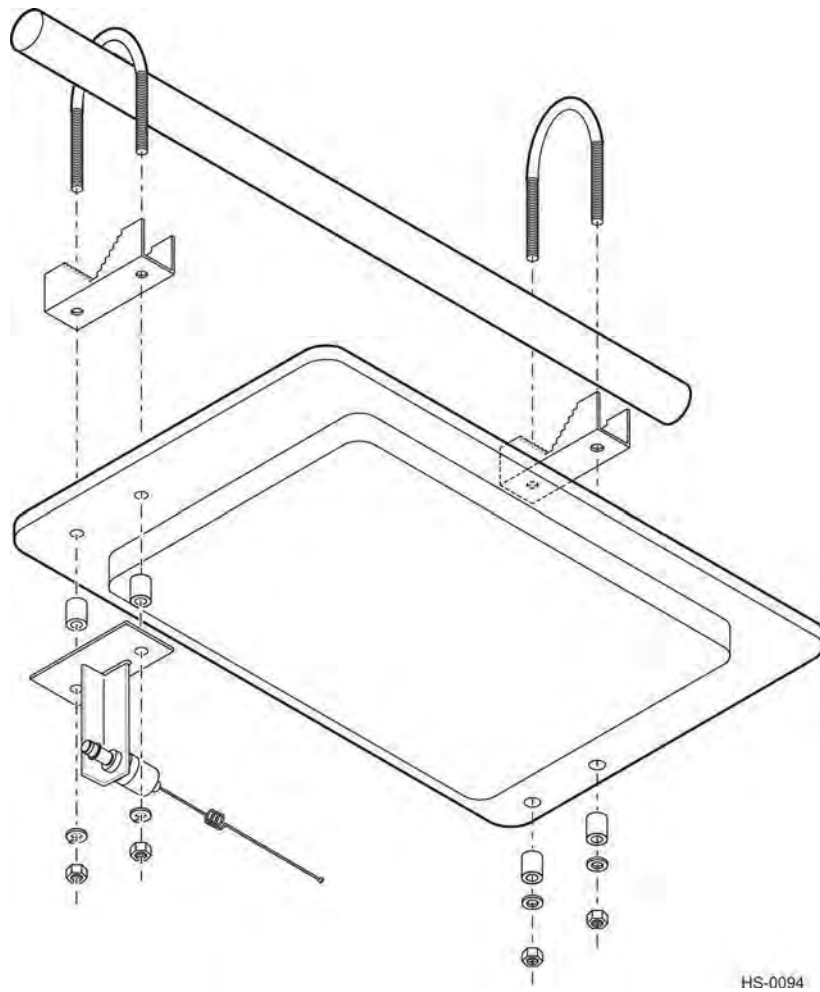

Figure D-9 Check Tag Antenna Installed on UTA Radome
Figure D-9 shows the correct way to mount the check tag antenna on the UTA.
Slow or intermittent read count or incorrect check tag response	The check tag antenna may have failed. Verify that the check tag antenna is correctly positioned in relation to the UTA. See Figure D-8 or Figure D-9 for correct location of check tag antenna depending on the installation. Be sure that the check tag antenna coaxial cable is securely fastened to the check tag antenna port on the check tag assembly and that the data cable is securely fastened between the check tag assembly and the Encompass Reader. Repeat the check tag test described in the Testing section. If the problem persists, replace the check tag antenna.
Unacceptable RF attenuation statistics using check tag	Verify that the check tag antenna is correctly positioned in relation to the UTA. See Figure D-8 or Figure D-9 for correct location of check tag antenna depending on the installation. Be sure that the check tag antenna cable is securely fastened to the check tag antenna port on the check tag assembly and that the data cable is securely fastened between the check tag assembly and the Encompass 6. Repeat the Run Check Tag command described on page D-14. If the problem persists, replace the check tag antenna.
2. Note the position of the check tag antenna with relation to the UTA. See Figure D-8 or Figure D-9 for correct check tag antenna mounting location.